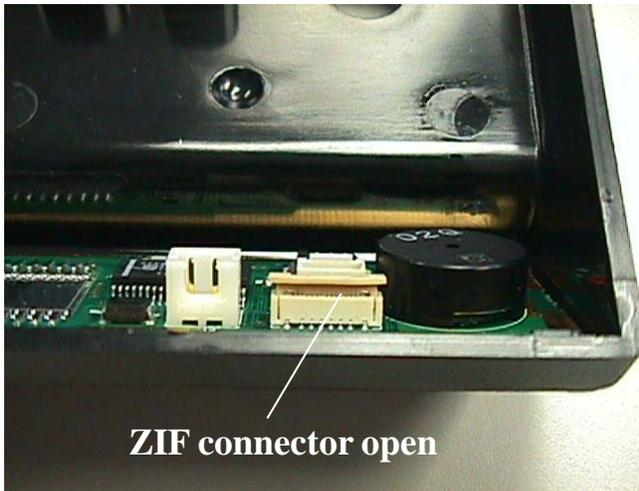

Fig. 11 - Pull release on ZIF connector outward
21. If the ZIF connector on the keypad assembly is not already open, pull the release on the ZIF connector outward to its open position (Figure 11).